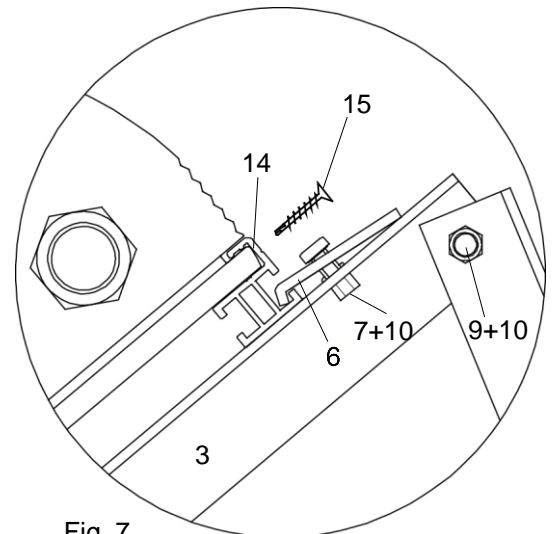
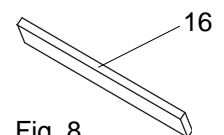

Fig. 7
Fig. 8
- Now fix the upper mounting profile (14) in the provided drillings at the inclined part of the supporting frame using the clamps (6) and the adequate screws and nuts (7, 10), see Fig. 7.
- Check the tightness of all clamps (6) and screws (7, 9 and 13).
- If several mounting profiles (14) have to be fixed in a row the alu connecting piece (16) has to be inserted in the corresponding section of the profile (Fig. 8).
- Fix each single collector on the top and on the bottom at the prepared drillings of the mounting profile (14) using the self drilling screws (15).